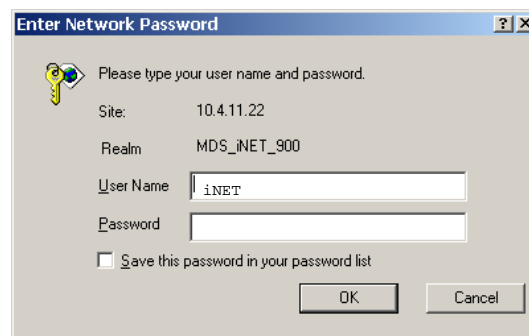

Figure 2-7. Log-in Screen—Web Browser Example
4. A log-in screen is displayed (Figure 2-7) where you enter a user name and password to access the unit's menu system. (Default username is **iNET** or **iNET-II**, in accordance with radio model; Default Password is **admin**).